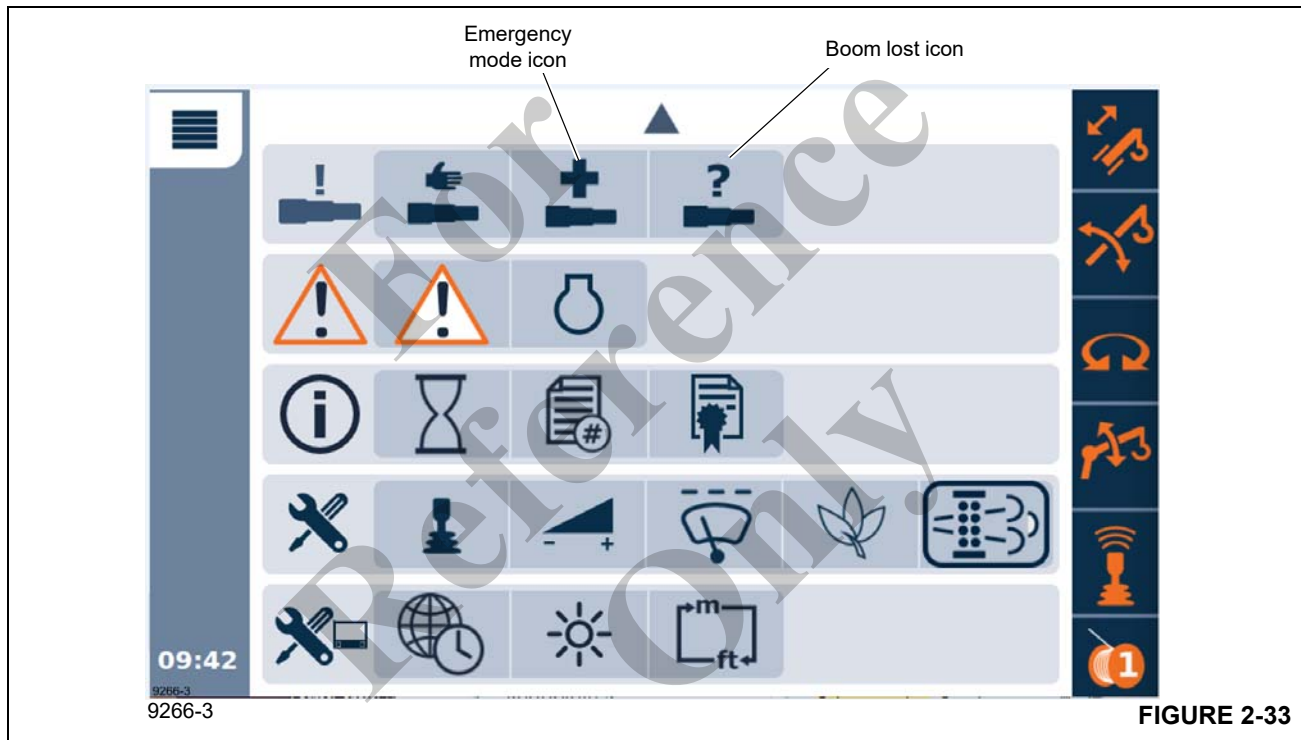

FIGURE 2-33
2. Start the engine and navigate to the boom recovery pinning screens. (see Figure 2-33, 2-34 & 2-35).
10. Return the boom pinning to it's normal state. (see Figure 2-33, 2-37 & 2-38)
- Navigate to the Lower display menu screen and select the Boom lost icon. (see Figure 2-33).